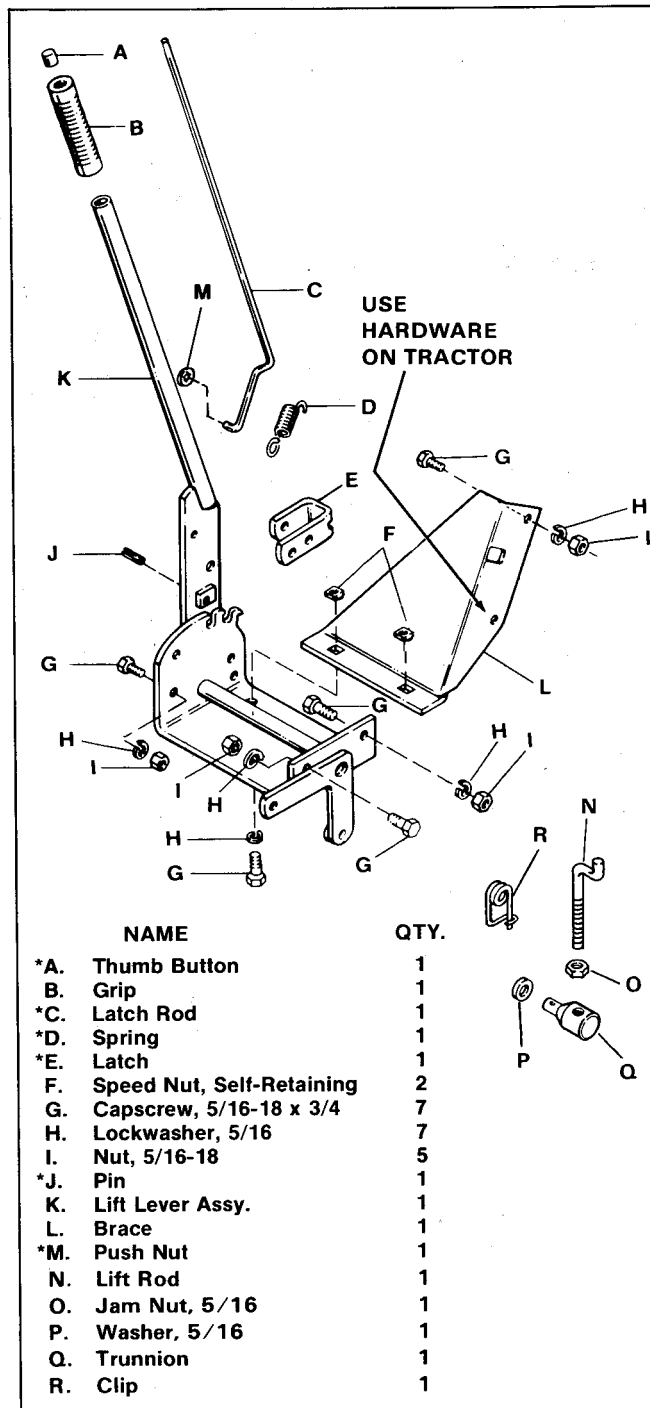
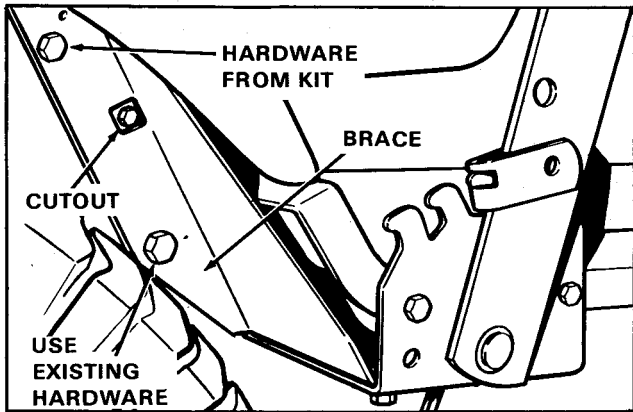

Figure 1. Lift Lever Kit
Figure 3. Install Brace
Refer to figure 1 to identify the parts shipped with the kit.
1. Install the two speed nuts (F, figure 1) into the two holes in the brace (L).
3. Install the brace (L, figure 1) to the tractor behind the right foot rest. Use one capscrew (G), lockwasher (H) and nut (I) supplied with the kit and one capscrew, lockwasher and nut already installed in tractor. For proper position, align the cutout in the brace with the existing small screw. See figure 3.
6. Install the kit as described under "Installation on Later Models", except when installing the brace (figure 3) use existing hardware for lower hole and hardware from kit for upper hole.